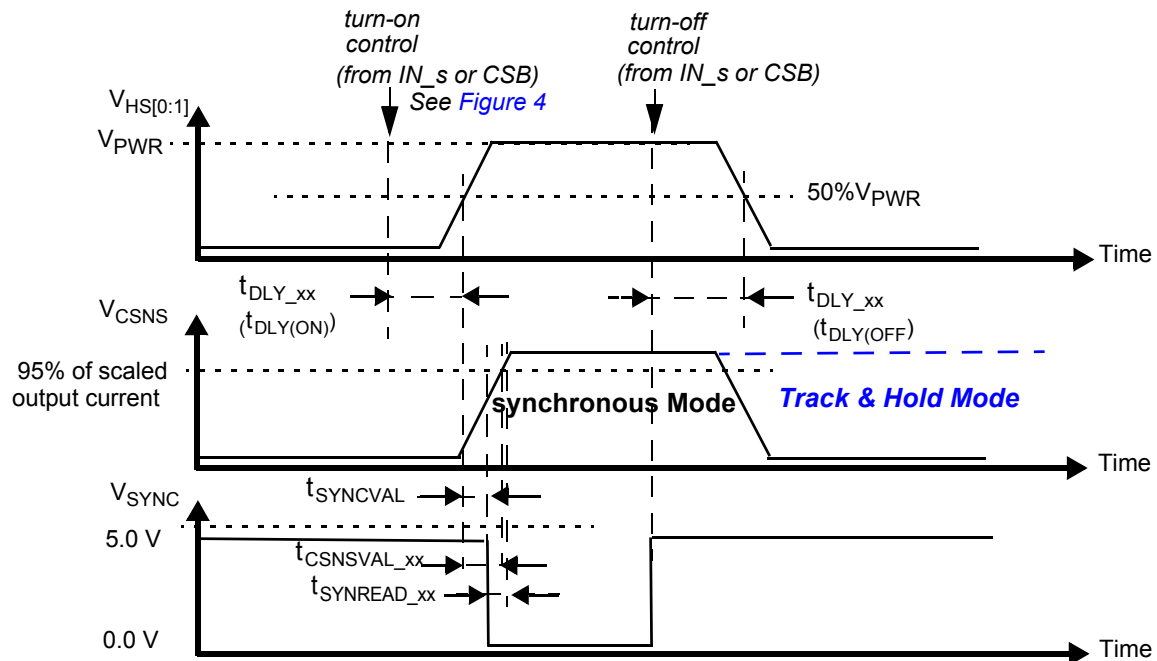

Figure 9. Synchronous & Track-and-Hold Current Sensing Modes: Associated Delay & Settling Times
34. Settling time ($= t_{\text{CSNSVAL_xx}}$), SYNC output signal delay ($= t_{\text{SYNCVAL_xx}}$) and Read-out delay ($= t_{\text{SYNREAD_xx}}$) are defined for a stepped load current ($100\text{ mA} < I(\text{LOAD}) < I_{\text{OCLX A FOR CSNS_RATIO_S}} = 1$, AND $300\text{ mA} < I(\text{LOAD}) < I_{\text{OCLX A_0 FOR CSNS_RATIO_S}} = 0$). (see Figure 9 and Output Current Monitoring \(CSNS\))
The CS pin allows independent current monitoring of channel 0 or channel 1 up to the steady-state overcurrent threshold. It can also be used to sense the device temperature. The different functions are selected by setting bits CSNS1_en and CSNS0_en to the appropriate value (Table 23). When the CSNS pin is sensed during switch-off in the (optional) track & hold mode (see Figure 9), it outputs the scaled value of the load current as it was just before turn-Off. When several devices share the same pull-down resistor, the CSNS pins of devices, the current of which is not monitored, must be tri-stated. This is accomplished by setting CSNS0_en = 0 and CSNS1_en = 0 in their GCR register (Table 12). Settling time ($t_{CSNSVAL_XX}$) is defined as the time between the instant at the middle of the output voltage's rising edge ($HS[0:1] = 50\%$ of V_{PWR}), and the instant at which the voltage on the CSNS pin has settled to $\pm 5.0\%$ of its final value. Anytime an overcurrent window is active, the CSNS pin is disabled (see Overcurrent Detection on Resistive and Inductive Loads). The current and temperature sensing functions are unavailable in Fail-safe mode and in Normal mode when operating without the V_{DD} supply voltage. In order to generate a voltage output, this pin requires a pull-down resistor ($R(CSNS)=1.0\text{ k}\Omega$ typ. and $470 < R(CSNS) < 10\text{ k}$). When the current sense resistor connected to the CSNS pin is disconnected, the CSNS voltage is clamped to $V_{CL(CSNS)}$. The CSNS pin can source currents up to about 5.6 mA.
To synchronize current sensing with an external process, the SYNC signal can be connected to a digital input of an external MCU. An open-drain pull-down on SYNC indicates that the current sense signal is accurate and ready to be read. The current sense signal on the CSNS pin has the specified accuracy $t_{SYNREAD_XX}$ seconds after the falling edge on the SYNC pin (Figure 9) and remains valid until a rising edge is generated. The rising edge that is generated by the SYNC pin at the turn-OFF instant (internal or external) may also be used to implement synchronization with the external MCU. Parameter $t_{SYNCVAL_XX}$ is defined as the time between the instant at the middle of the output voltage rising edge ($HS[0:1] = 50\%$ of $VPWR$), and the instant at which the voltage on the SYNC-pin drops below 0.4 V (V_{SOL}). The SYNC pins of different devices can be connected together to save micro-controller input channels. However, in this configuration, the CSNS of only one device should be active at a time. Otherwise, the MCU is not be able to determine the source of the SYNC signal. The SYNC pin requires an external pull-up resistor to V_{DD} .